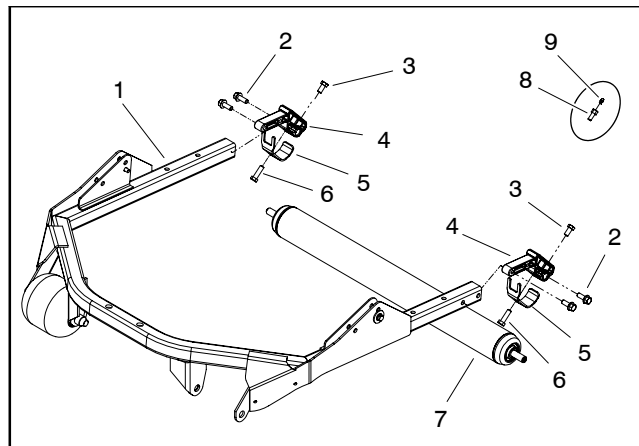

Figure 13
Removal (Fig. 13)
Installation (Fig. 13)
IMPORTANT: If roller design includes grease fittings in roller fasteners (items 8 and 9 in Fig. 13), make sure the grease groove in each roller mount aligns with the grease hole in each end of the roller shaft. To help align the groove and hole, there is also an alignment mark on one end of the roller shaft.